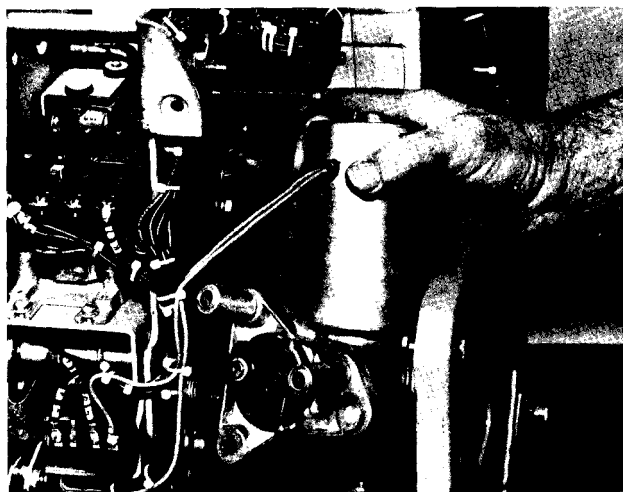

FIG. 3
5. Remove the remaining two mounting bolts of the motor and all spacers. Lift and place the motor aside, see figure 3. Do not disconnect any wires.
12. Close the breaker. Reassemble motor, see figures 3 and 4. See figure 3. Verify that the screwdriver bit is not left in the breaker with Allen screw. Trip the breaker so that it is open and discharged.